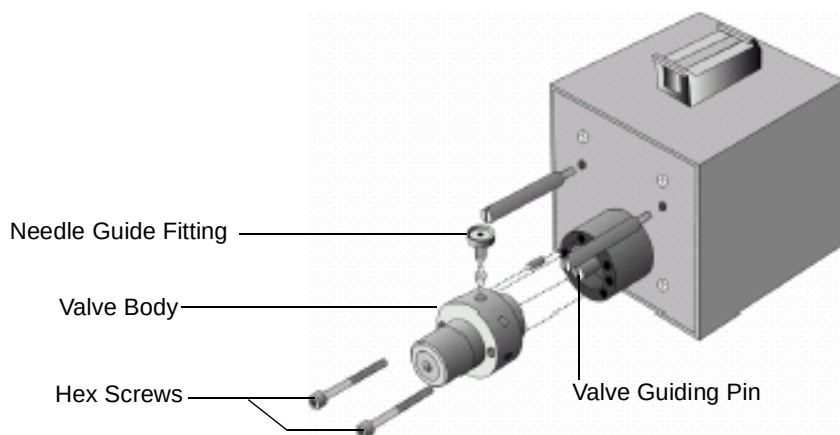

Figure 4-2 Replacing the Injection Valve
1. Remove the sample loop, needle guide fitting, and tubing from the valve body (Figure 4-2).